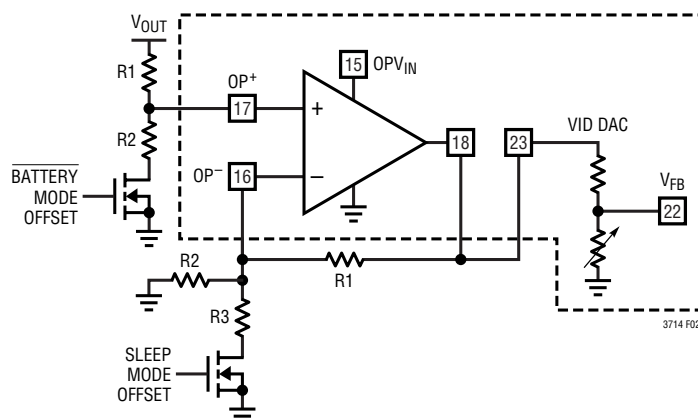

Figure 2b
*An alternate configuration, shown in Figure 2b, can be used to program offsets as well. Either configuration can be used, depending upon the logic of control signals. If offsets are not required, the op amp can be used to remotely sense the output voltage, proving true differential sense.